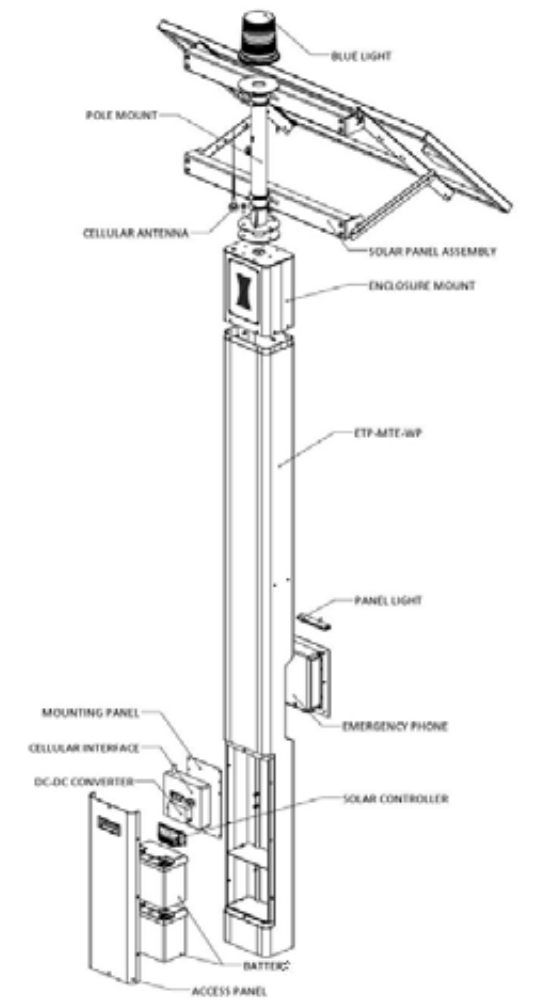
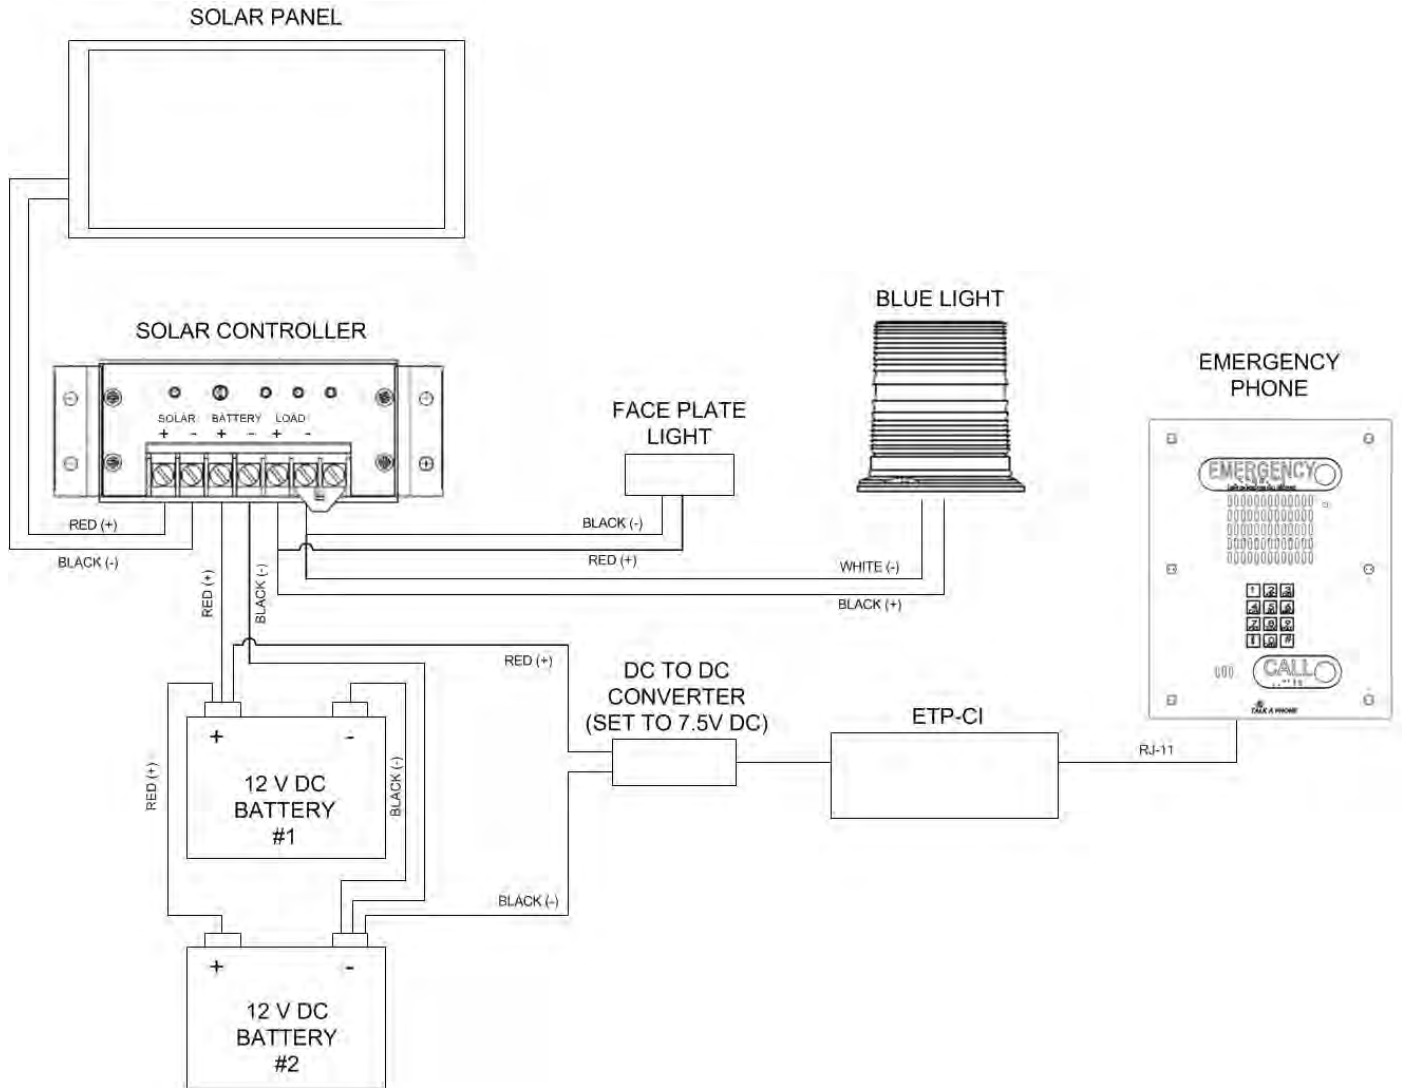

Figure 25. Exploded view of **ETP-MTE-WP** configuration
Figure 28. Solar system wiring schematic
3. For **ETP-MTE-WP** (Refer to **Figure 25**),
2. Connect the power cable from the solar panel to the “SOLAR” terminals on the solar controller. **Do not discard excess wire.** Refer to the wiring diagram as shown in **Figure 28**.
3. Connect the batteries in parallel to the “BATTERY” terminals on the solar controller using the excess power cable. Crimp-on connectors are included for the batteries. Ensure that the shunt on the solar controller is installed correctly for the battery type. Refer to the wiring diagram as shown in **Figure 28**.
6. Install the shelves and batteries in the tower's rear lower compartment as shown in **Figures 25 & 26**. Make all remaining connections, including connecting the batteries in parallel with the provided connector cable. *Refer to **Figure 28***